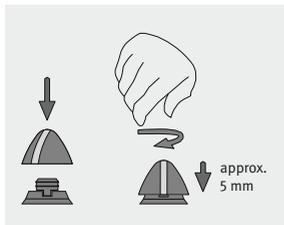

Figure 5
- Then each mounting point needs to be covered with a click-cap. They are also enclosed in one of the corner protection covers of the rooflight. The click-cap is fitted onto the nut and fixed by twisting. As a result, the click-cap will settle approx. 5 mm on the mounting point (see fig. 5).